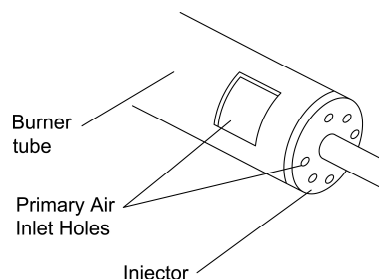

Figure 25 – Injector holder on Outlet Burner Tube
2. Inspect burner, pilot and primary air inlet holes on injector holder for dust and dirt (see Figure 25).